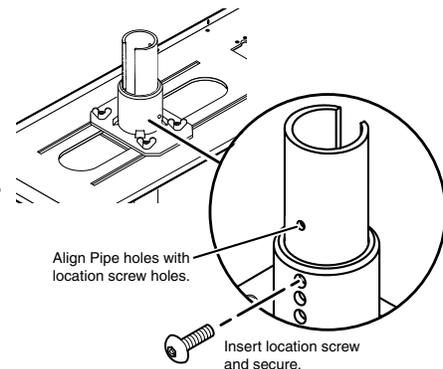

Figure 3 — Insert pipe into adapter
- d. Back out the Pipe Adapter set screws on the adapter plate. Slide the slotted pipe into the adapter, aligning the holes in the pipe with those in the adapter (see figure 3). Tighten the pipe location screw and the set screws to secure the pipe.